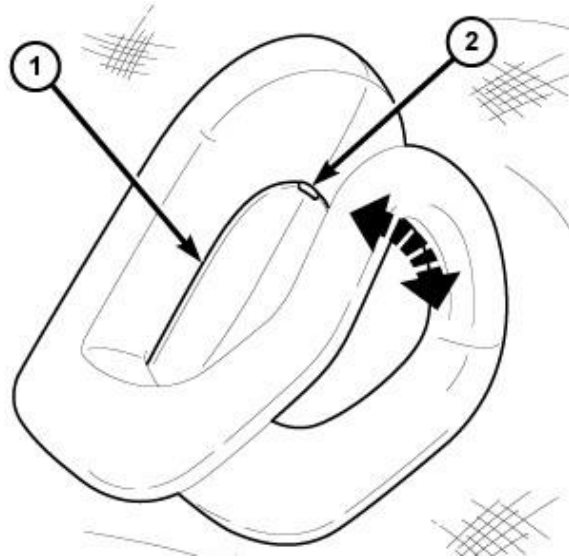

Figure 50 – Coat Hook
12. Using a small flat bladed tool, open the coat hook screw cover (2) then remove the screw and coat hook (Figure 50).
50. Position the coat hooks onto the headliner and install the screws tightening securely into the mounting clips then close the screw cap fully (Figure 50).